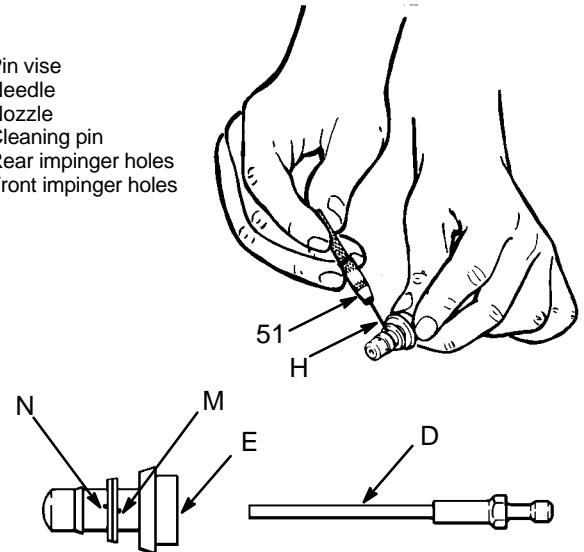

Fig. 16
- Clean the rear impinger holes (M) of the nozzle (E) first.** From the tip end of the nozzle, look through the nozzle while inserting the cleaning pin (H) into the *rear* impinger holes. See Fig. 16.
- Now clean the front impinger holes (N).** On the spray nozzles these impinger holes *are not* on the centerline of the nozzle, but are just off center. On pour nozzles these holes *are* on the centerline. It is important that the pin be inserted at the same angle that the impinger hole is bored in order to clean it properly.
Look through the nozzle from the tip end. Insert the pin (H), pushing it through the impinger hole and into the center of the nozzle. *But do not push the pin all the way through which will scratch the interior of the nozzle.* See Fig. 16.
- Insert the needle (D) through the large end of the nozzle and push out any debris.